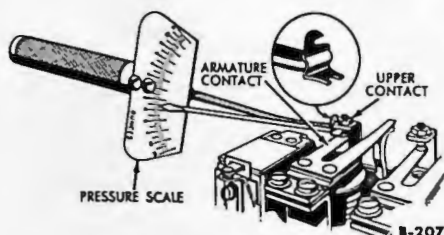

Fig. 12—Checking Contact Pressure.
(5) **CHECK PRESSURE OF VOLTAGE OR CURRENT CONTACTS.** Using an accurate pressure scale, check the pressure on the contacts as shown in fig. 12. The minimum pressure at the contacts just as they break must not be less than 5 ounces for either the voltage control or current limiter contacts. If the pressure is less than specified, adjust the upper contact screw until the proper pressure is obtained. Tighten the lock nut after the adjustment is made.